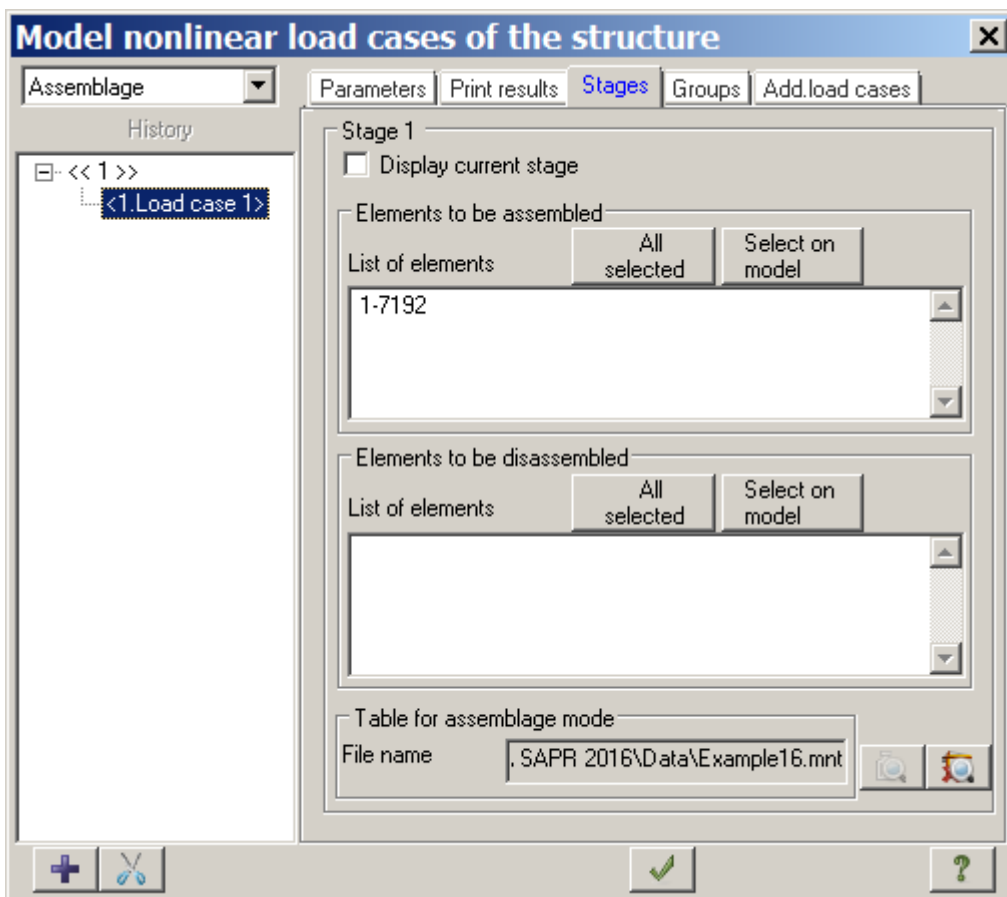

Figure 16.18 **Model nonlinear load cases** dialog box for defining assemblage stages
- ⇒ In the **Model nonlinear load cases of structure** dialog box (see Fig.16.18), select the third tab **Stages** and click the **Add** button  (in the left part of the dialog box, under **History**, the first load history is added and the row with first stage of assemblage will become selected automatically).